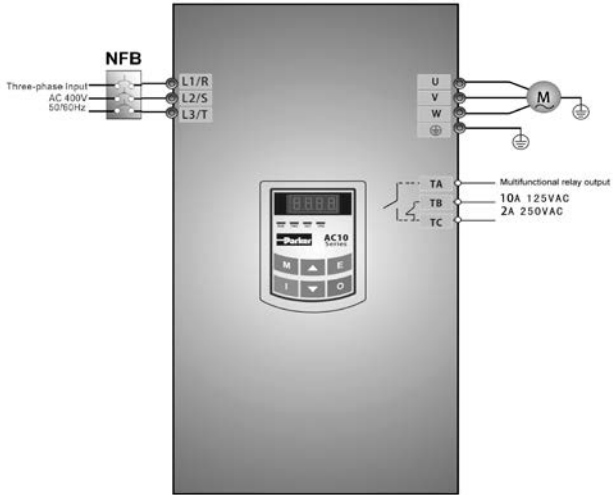

Figure 4-1 Wiring Diagram 1
- (1) Connect the wires in accordance with Figure 4-1. After having checked the wiring successfully, switch on the air switch, and power on the inverter.
- (2) Press the “M” key, to enter the programming menu.
- (3) Measure the parameters of the motor
- (1) Connect the wires in accordance with Figure 4-1. After having checked the wiring successfully, switch on the air switch, and power on the inverter;
- (3) Study the parameters of the motor: the operation process is the same as that of example 1.
- (4) Set functional parameters of the inverter: